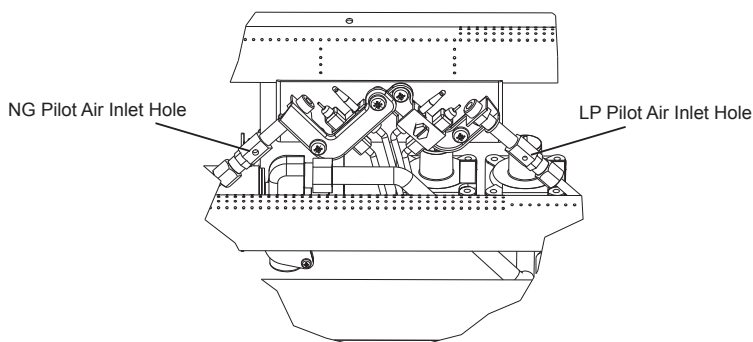

Fig. 22 - Pilot Inlet Air Hole
6. In case any large clumps of dust have now been pushed into the burner repeat steps 3 and 4. Clean the pilot assembly also. A yellow tip on the pilot flame indicates dust and dirt in the pilot assembly. There is a small pilot air inlet hole about 2" from where the pilot flame comes out of the pilot assembly (see Figures 22). With the unit off, lightly blow air through the air inlet hole. You may blow through a drinking straw if compressed air is not available.